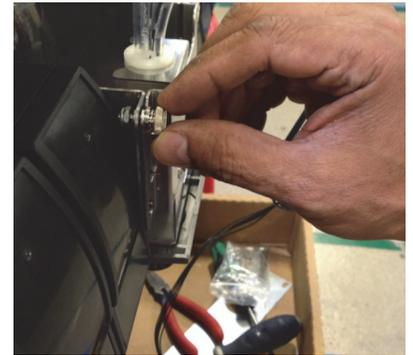

Figure 12C.
11. Install nyloc nuts on the back of the thumb screw. Once the nyloc is secured, hand tighten the thumbscrew, as shown in Figure 12C.